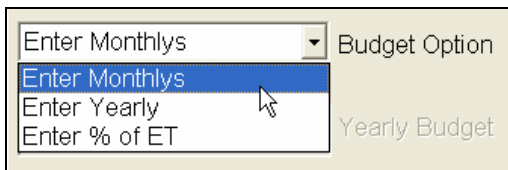

Figure 16.4.28D
- Next use the drop down arrow next to the **Budget Option** box to select the type of budget desired (Figure 16.4.28D).